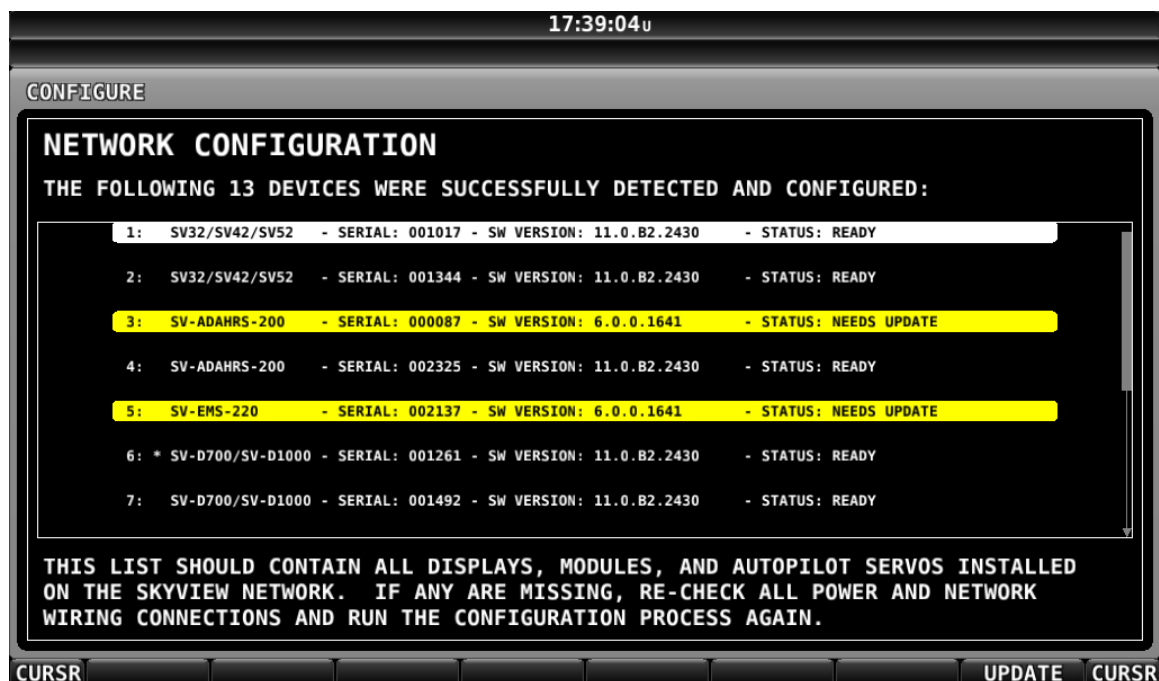

Figure 23—SkyView Network Configuration with Firmware Update
If the SkyView network is successfully configured, but firmware versions on equipment are not synchronized, you will see a screen that is similar to Figure 23.
*If you see a screen similar to the one in Figure 23, simply press the button labeled UPDATE to update the firmware running on the equipment in the SkyView network.*